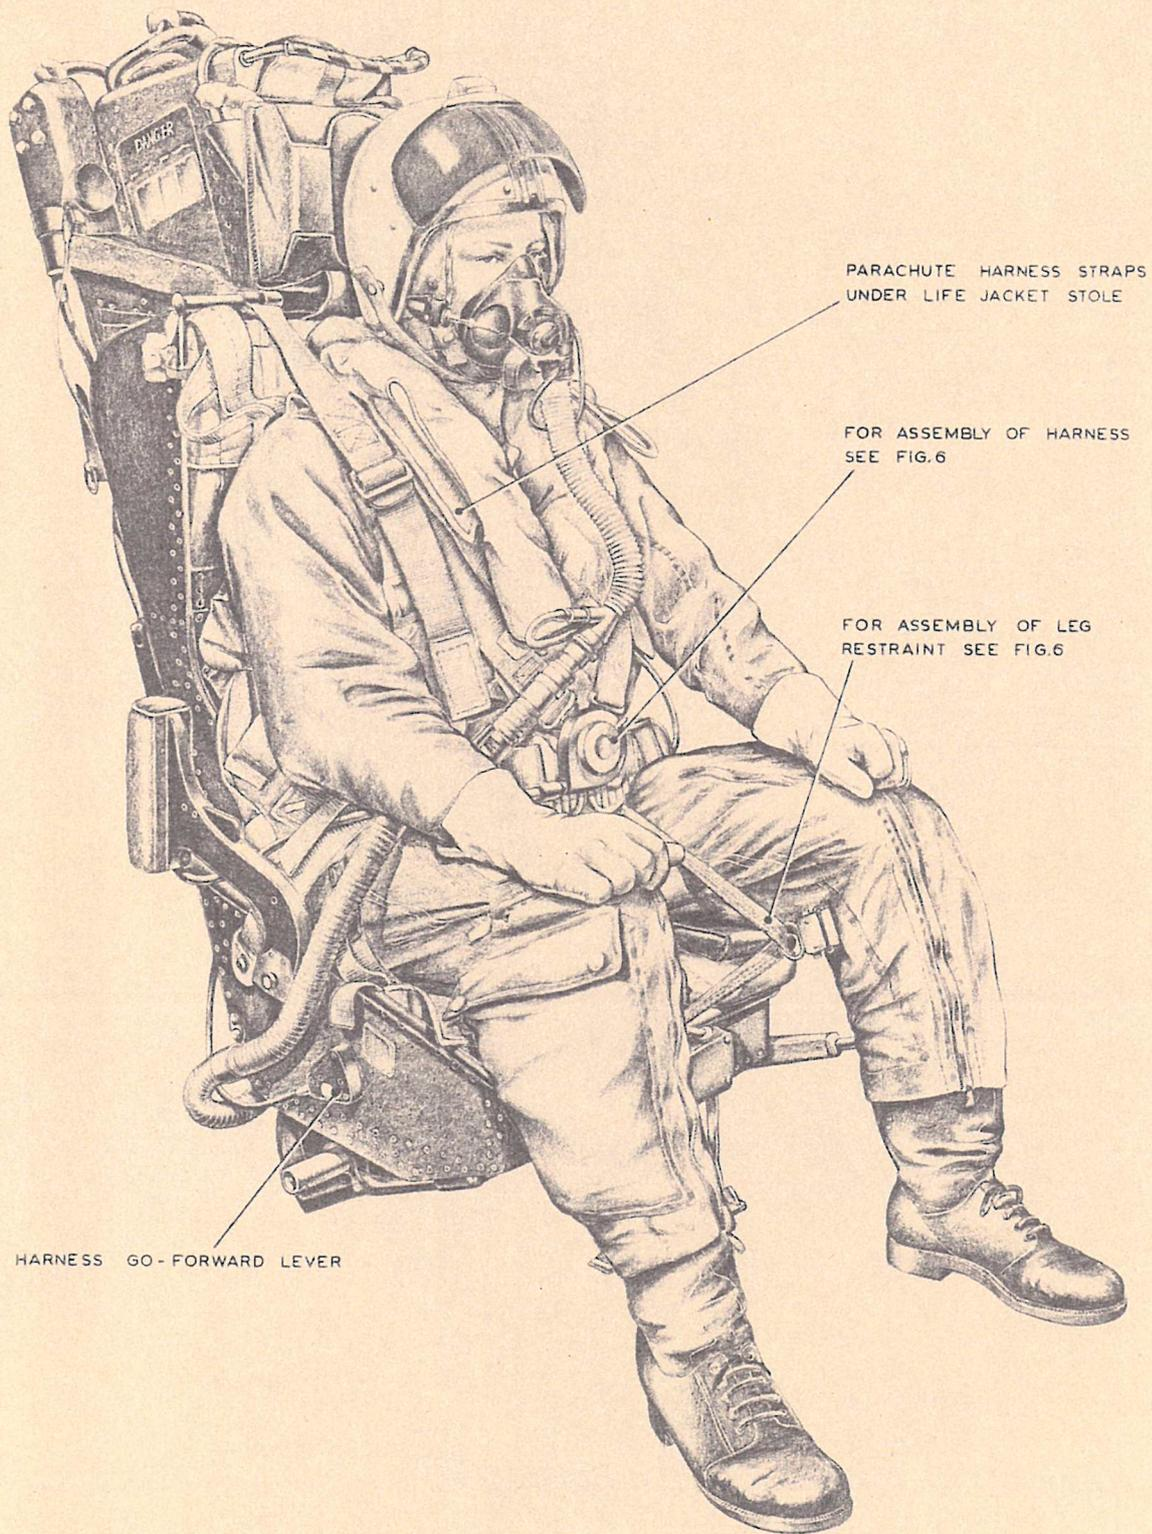

Fig. 4. The ejection seat occupied (1)
16. Assuming that garters have been fitted the strapping-in procedure is as follows: refer to fig. 4, 5 and 6 for detail as necessary: -